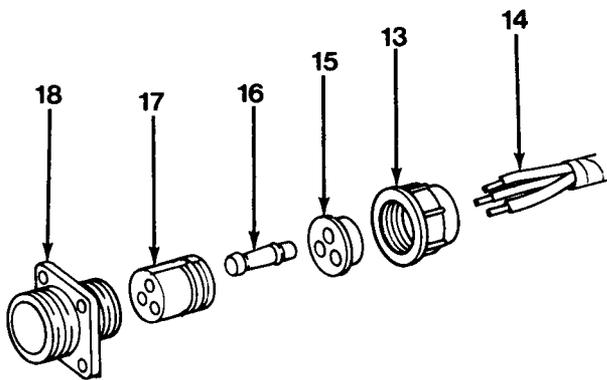

Figure 10-5
2. Unscrew nut (13, Figure 10-5) from shell assembly and slide back on cable.
3. Slide grommet (15) back on cable leads (14).
4. Push socket contacts (16) out through front of insert (17) with pin extractor.
5. Push insert (17) out through rear of shell (18).
6. Unsolder cable leads (14) from pin contacts (16).